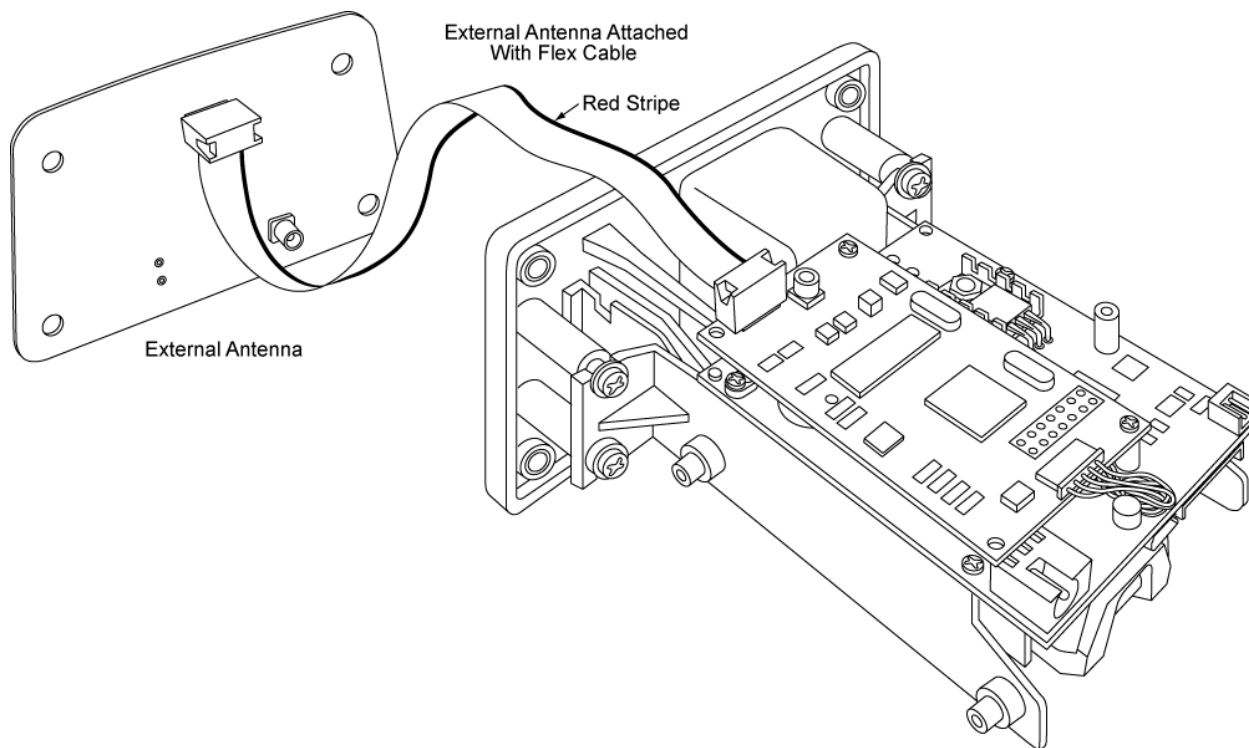

Figure 2-7. Using External Antenna with LEDs (Ribbon Cable)
- Flat Ribbon Cable – this cable is only 7.5” (19cm) but all 4 of the LEDs are supported (see Figure 2-7)